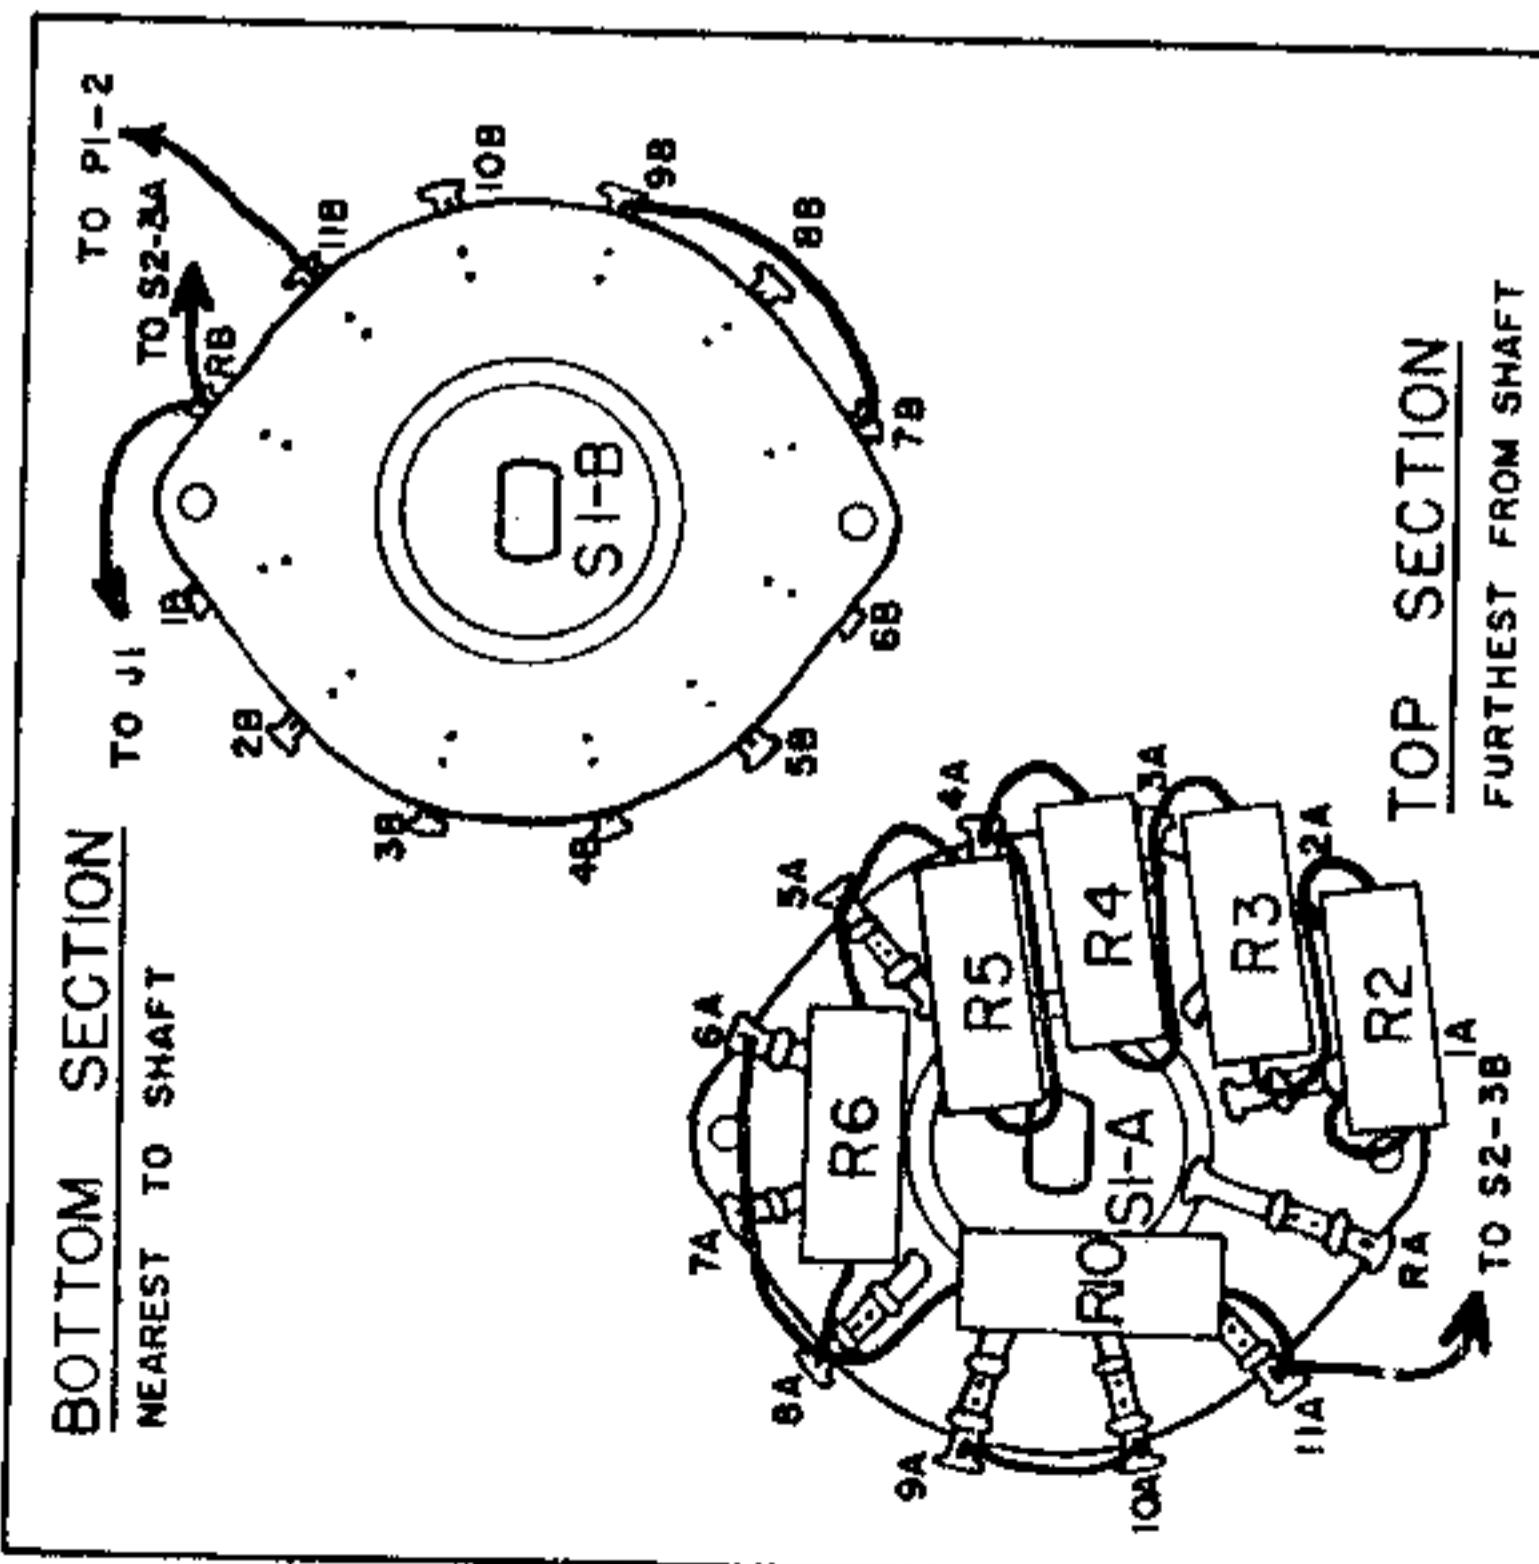
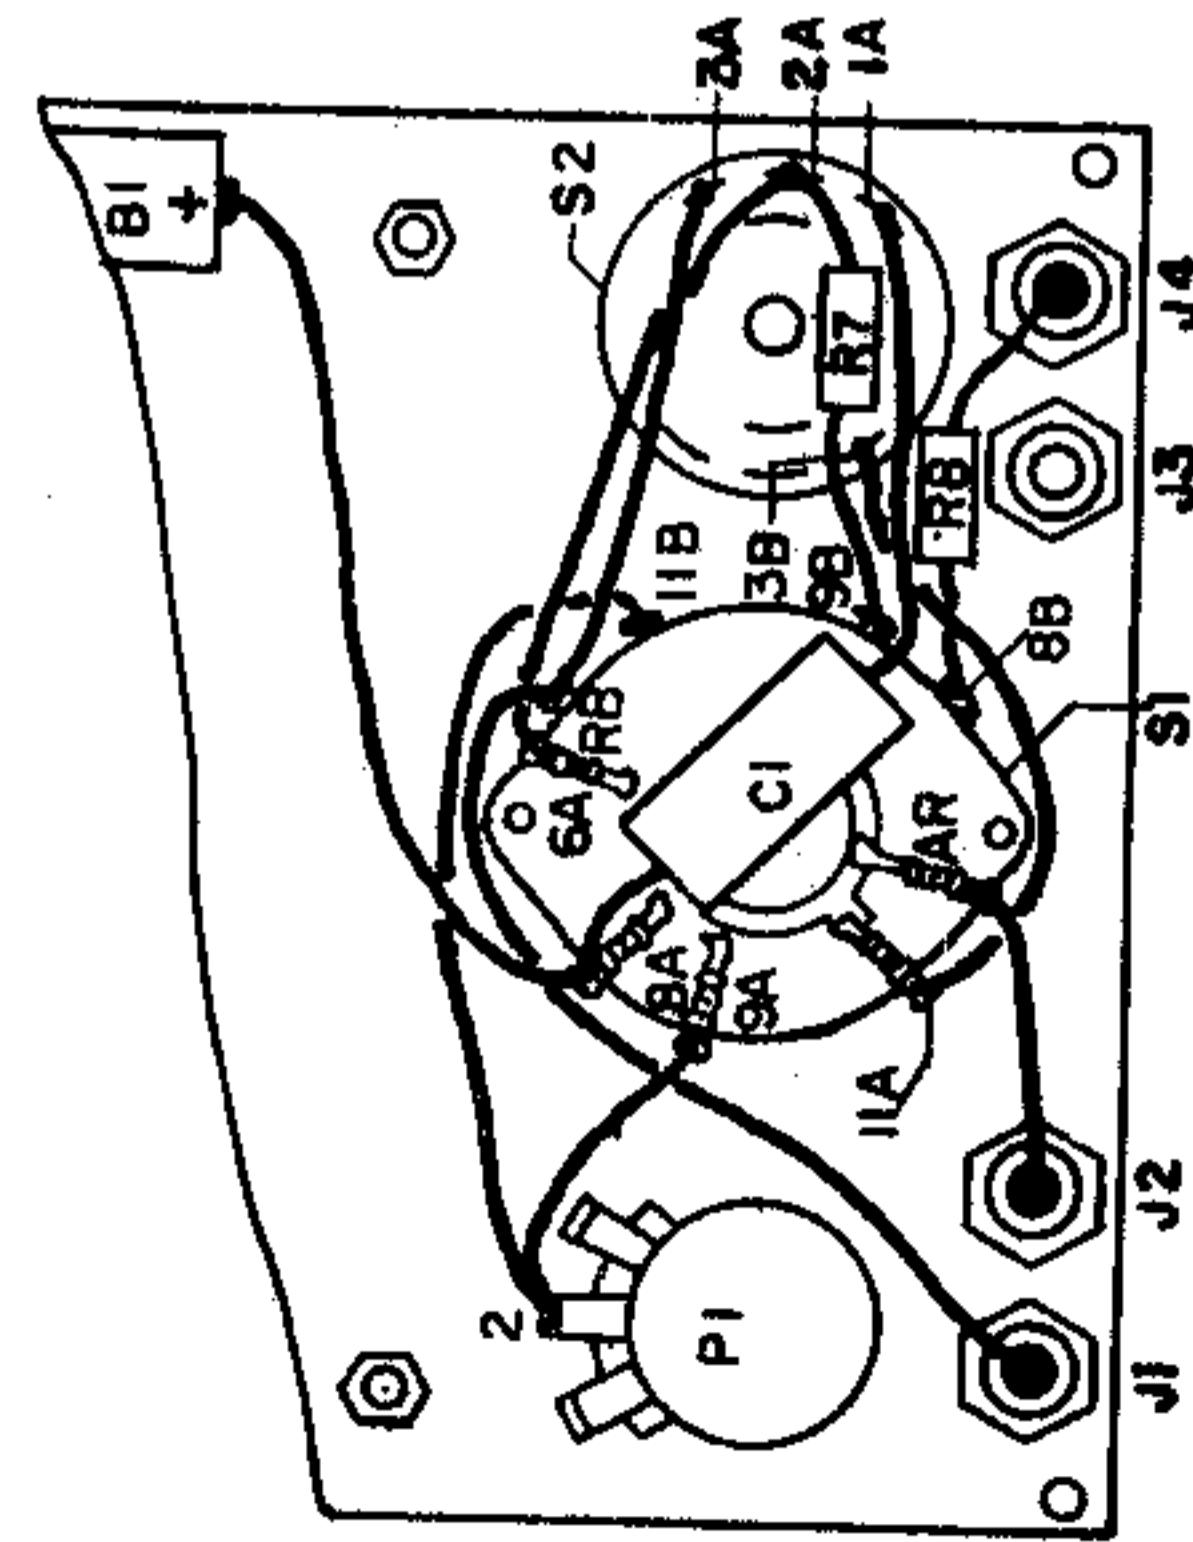

FIGURE 1
FIGURE 2
- 2) Refer to Assembly Print No. 2. Prewire the range switch S1 as instructed and shown in Fig. 1. Mount the prewired range switch as instructed and complete the final wiring as instructed and shown in Fig. 2.
To position switch S1 to correspond to the view shown of it in the prewiring diagram, FIG. 1, and FIG. 2; turn the whole switch long (rotor) contact, RA, of switch S1-A 18° from you, until the and the long (rotor) contact, RB, of switch S1-B 18° at your lower left, right. Note: Switch S1-A is formed of the contact members and rotor fastened to the top of the wafer (nearest you), and switch S1-B is formed of the contact members and rotor fastened to the underside of the wafer (furthest from you).